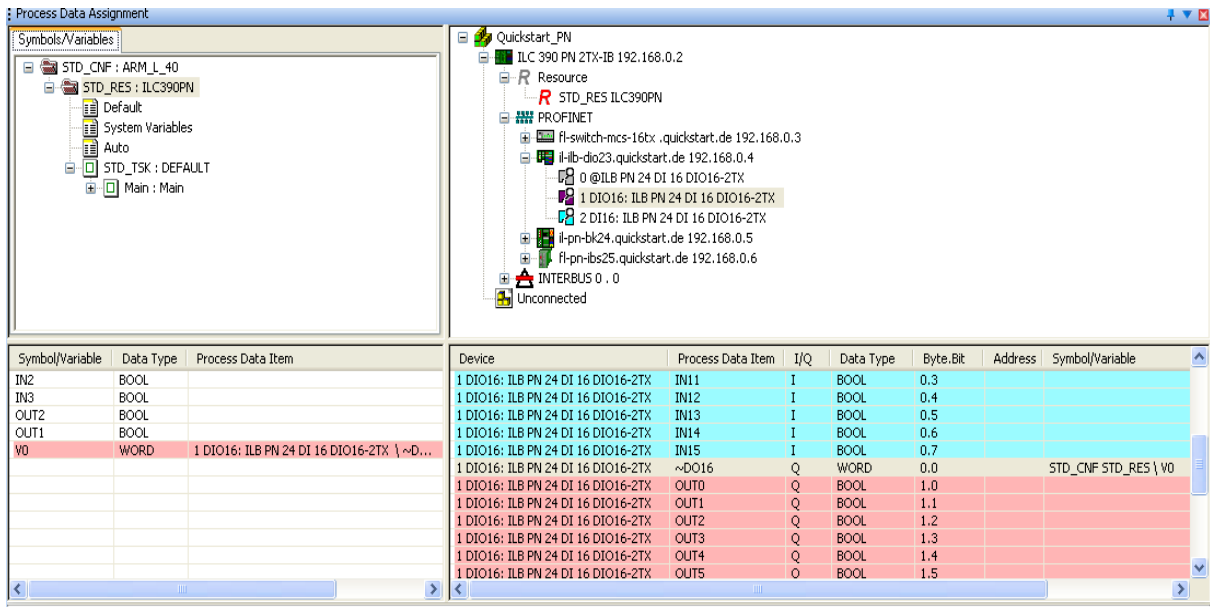

Figure 6-6 Assigning process data for a PROFINET IO device
- In this case, select the module where the required inputs or outputs are located (DIO16: ILB PN 24 DI16 DIO16-2TX in Figure 6-6).
- Select the process data item to be linked (~DO16 in Figure 6-6).
- Variables are created when the program is created. Using drag & drop, link the selected variable to one of the variables on the left-hand side (V0 in Figure 6-6).